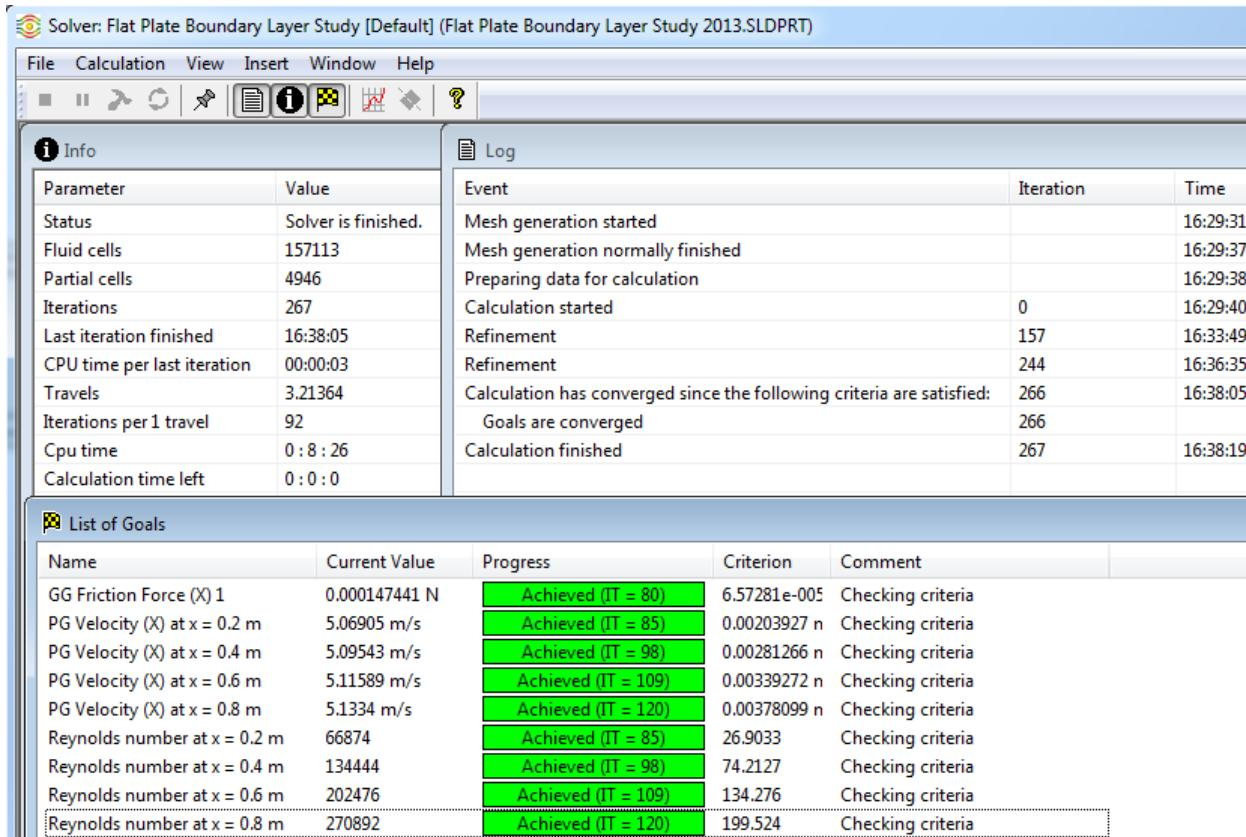
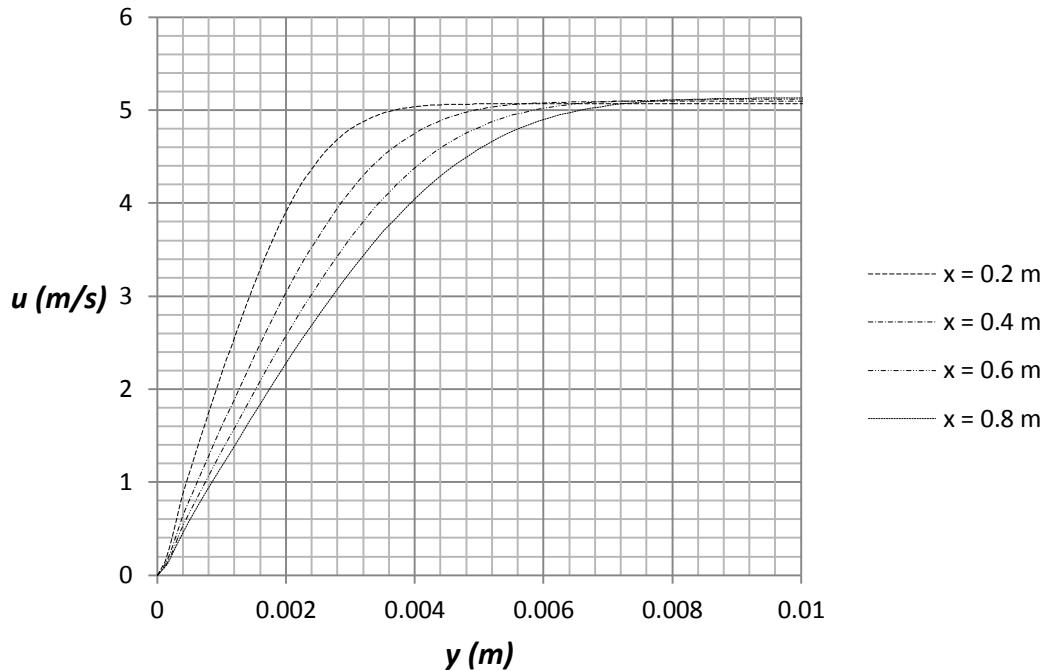
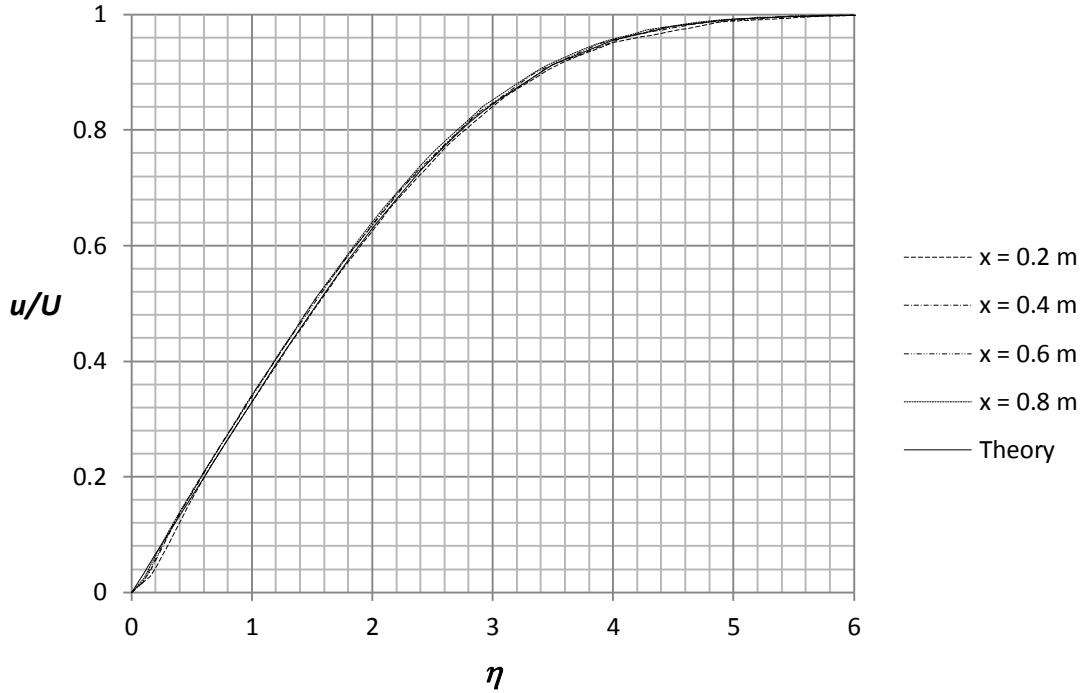
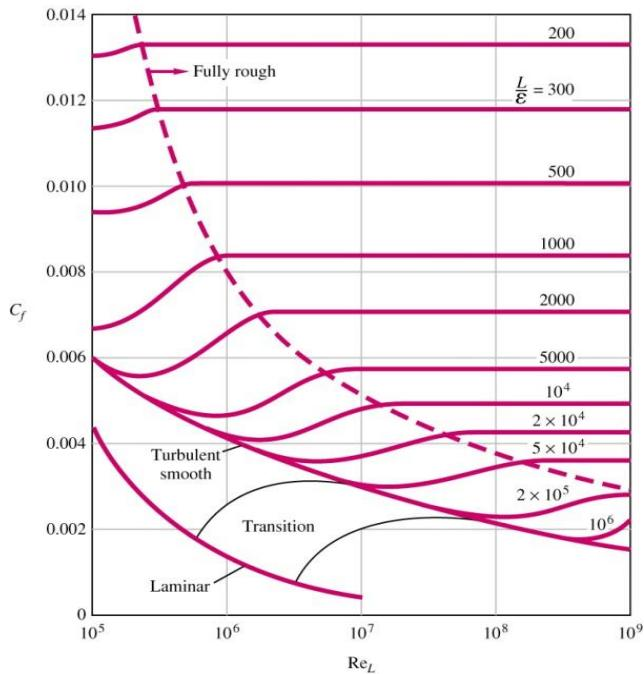

Figure 2.22c) Solver window
Figure 2.24c) Boundary layer velocity profiles on a flat plate at different streamwise positions
Figure 2.25a) Velocity profiles in comparison with the theoretical Blasius profile (full line)
Figure E3 Average friction coefficient for flow over smooth and rough flat plates, White (1999)
24. Place the file “xy-plot figure 2.24c)” into the **Local Disk (C:/Program Files /SolidWorks Corp/SolidWorks Flow Simulation/lang/english/template/XY-plots** folder to make it available in the **Template** list. Click on the FeatureManager design tree. Click on the sketch **x = 0.2, 0.4, 0.6, 0.8 m**. Click on the Flow Simulation analysis tree tab. Right click **XY Plot** and select **Insert....** Check the **Velocity (X)** box. Open the **Resolution** portion of the **XY Plot** window and slide the **Geometry Resolution** as far as it goes to the right. Click on the **Evenly Distribute Output Points** button and increase the number of points to **500**. Open the **Options** portion and check the **Display boundary layer** box. Select the template “xy-plot figure 2.24c)” from the drop down menu. Click **Export to Excel** to create the **XY Plot** window. An Excel file will open with a graph of the velocity in the boundary layer at different streamwise positions, see figure 2.24c). Rename the inserted xy-plot in the **Flow Simulation analysis tree** to **Laminar Velocity Boundary Layer**.
26. Place the file “xy-plot figure 2.25a)” into the **Local Disk (C:/Program Files /SolidWorks Corp/SolidWorks Flow Simulation/lang/english/template/XY-plots** folder to make it available in the **Template** list. Repeat step 24 and select the new template for the XY-plot. Rename the xy-plot to **Comparison with Blasius Profile**.
We see in figure 2.25a) that all profiles at different streamwise positions collapse on the same Blasius curve when we use the boundary layer similarity coordinate.
From the data of figure 2.24c) we can see that the thickness of the laminar boundary layer is close to 3.80 mm at $Re_x = 66,874$ corresponding to $x = 0.2$ m. The free stream velocity at $x = 0.2$ m is $U = 5.069$ m/s, see figure 2.22c) for list of goals in solver window, and 99% of this value is $U_\delta =$
5.018 m/s. The boundary layer thickness $\delta = 3.80$ mm from Flow Simulation was found by finding the y position corresponding to the U_δ velocity. This value for δ at $x = 0.2$ m and corresponding values further downstream at different x locations are available in the Plot Data for Figure 2.25a). The different values of the boundary layer thickness can be compared with values obtained using equation (3). In table 2.1 are comparisons shown between boundary layer thickness from Flow Simulation and theory corresponding to the four different Reynolds numbers shown in figure 2.24c). The Reynolds number varies between $Re_x = 66,874$ at $x = 0.2$ m and $Re_x = 270,892$ at $x = 0.8$ m.
The average friction coefficient over the whole plate C_f is not a function of the surface roughness for the laminar boundary layer but a function of the Reynolds number based on the length of the plate Re_L , see figure E3 in Exercise 8 at the end of this chapter. This friction coefficient can be determined in Flow Simulation by using the final value of the global goal, the X-component of the Shear Force F_f , see figure 2.22c) and dividing it by the dynamic pressure times the area A in the X-Z plane of the computational domain related to the flat plate.
The average friction coefficient over the whole plate C_f is a function of the surface roughness for the turbulent boundary layer and also a function of the Reynolds number based on the length of the plate Re_L , see figure E3 in Exercise 8. This friction coefficient can be determined in Flow Simulation by using the final value of the global goal, the X-component of the Shear Force F_f and dividing it by the dynamic pressure times the area A in the X-Z plane of the computational domain related to the flat plate, see figure 2.28a) for the size of the computational domain.
- 2.8 Use different fluids, surface roughness, free stream velocities and length of the computational domain to compare the average friction coefficient over the entire flat plate with figure E3.